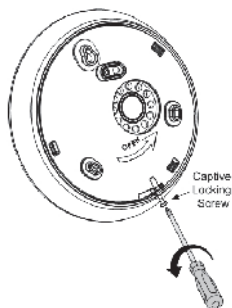

Figure 1: Releasing the locking screw
2. Release the mounting bracket captive locking screw (see Figure 1).
5. Secure the captive locking screw (see Figure 1)